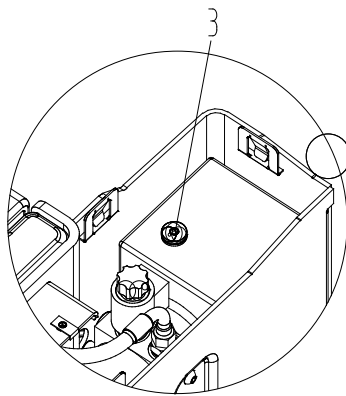

Figure 7
- Refer to Figure 7 and remove the plug 3 on the oil tank;